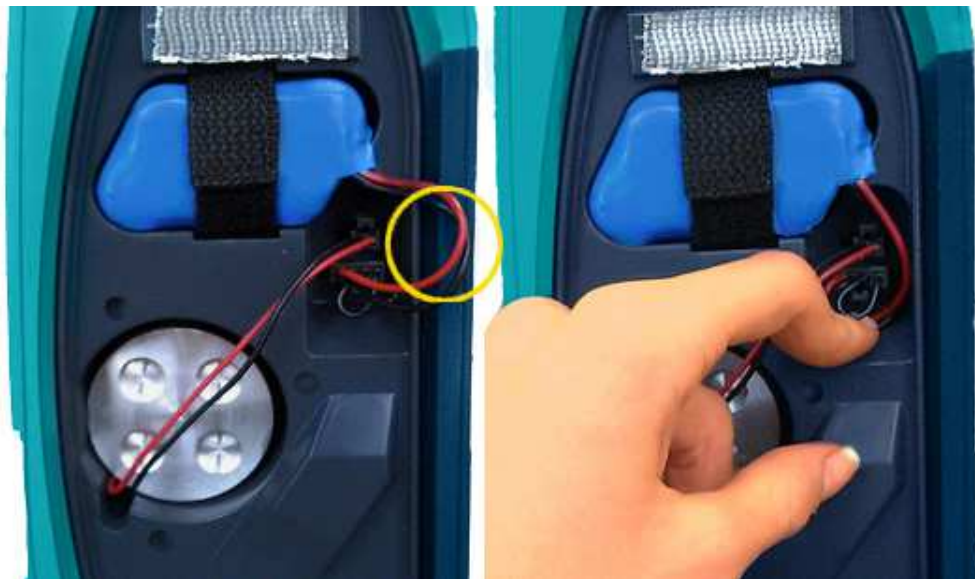

Fig. 2-24 – Wires placing
- Make sure that the wires of the lamp and the built-in battery do not obstruct the installation of the front panel (see Fig. 2-24) and fix the front panel.
- Make sure that the wires of the mercury lamp and the built-in battery do not obstruct the installation of the front panel (see Fig. 2-24) and fix the front panel.